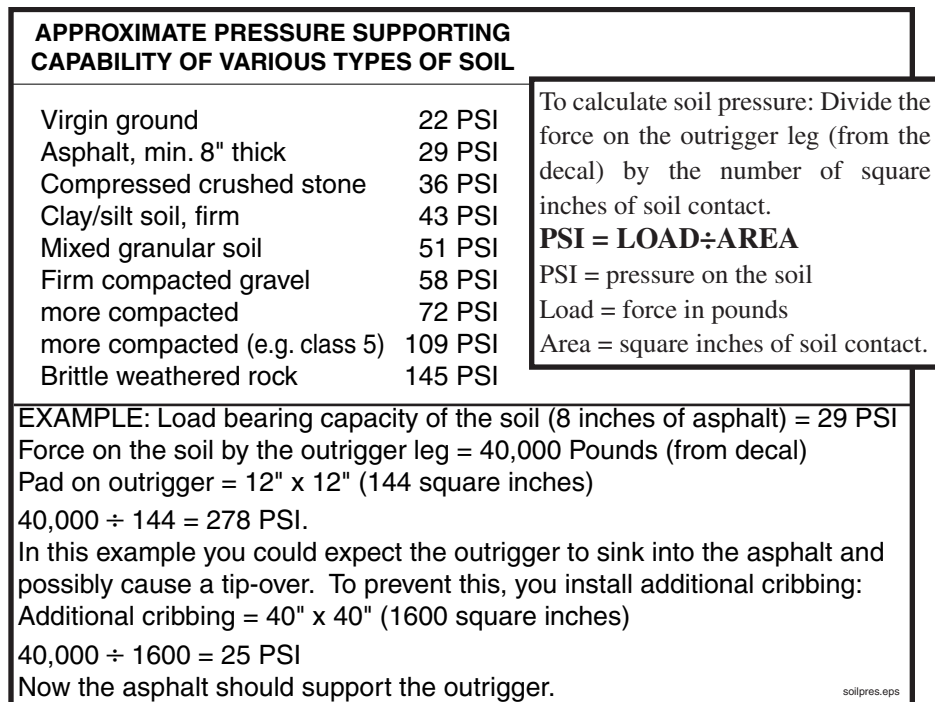

Figure 26
6.24 **⚠ WARNING** Tipping hazard! Check soil conditions before jacking the outriggers. If necessary, use cribbing or suitable pads under the outrigger legs to increase the area of soil contact. See the chart in Figure 26 for examples of load bearing capacities of various soil types and for an example of how to calculate how much cribbing is needed. If in doubt, the site management may be able to supply the load bearing capacity of the soil.